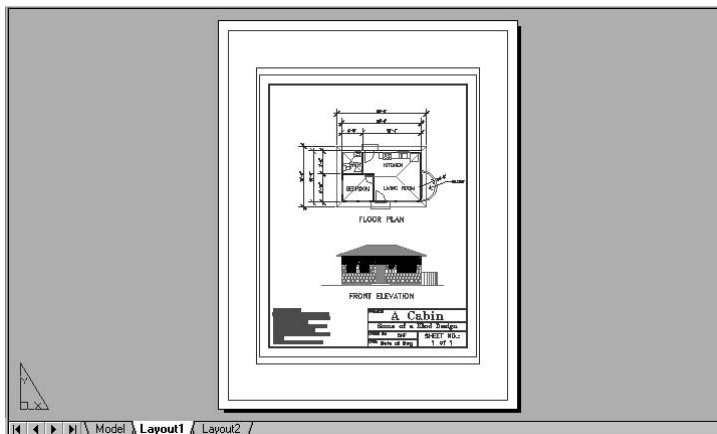

FIGURE 13.5: Layout1 with a rectangle drawn on the boundary of the printable area
2. Start the **Rectangle** command and type **0,0↵**. Then type the printable area number that you jotted down in step 5 in the previous exercise. For the example here, type **8.2,10.27↵**. A rectangle is drawn that coincides with the dashed lines representing the printable area of the sheet (see Figure 13.5).